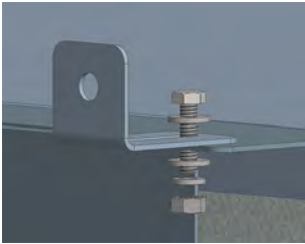

Figure 12
3. Loosely attach the wall mount brackets to the undercounter wall mount bracket with the 1/4"-20 hex screws (2), nuts (2), flat washers (4), and lock washers (2) (Figure 12).